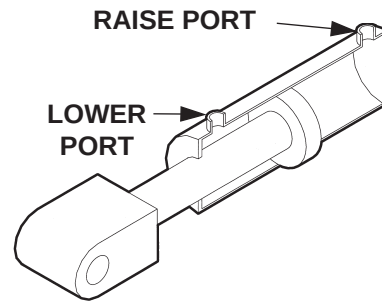

FIG. 50-1
4. Check the Hydraulic Cylinder. With the Platform on the ground, remove Line from the Lower Port of the Cylinder (**FIG. 50-1**). Allow pump motor to run two seconds more while you watch for hydraulic fluid at the Lower Port. A few drops of hydraulic fluid escaping the port is normal; however, if it streams out, Piston Seals are worn. Replace Seals.